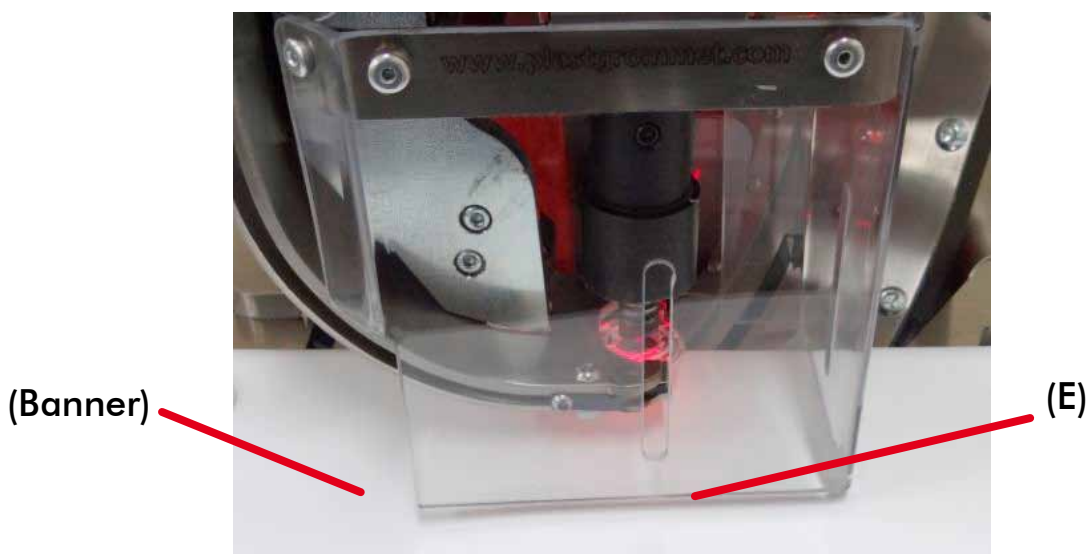

Fig. 11
2. Check that the switch (G) is on ON position (with the green light on).
4. Place the banner over the stainless steel plate and underneath the safety protection (E) (see Fig. 11).
5. Press the pedal/setting button (F) so main shaft comes down making the cutting of the material and the setting of the eyelet.
To install a new set of dies it will be necessary to take out the safety protection "E" (see Fig. 11). You must ALWAYS place it back as otherwise machine will not work.